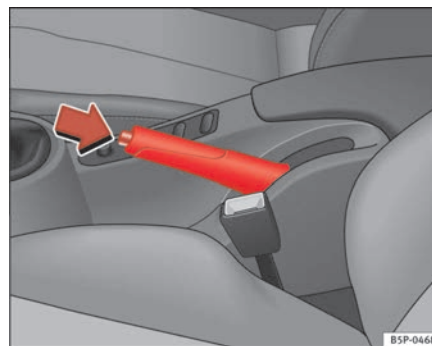

Fig. 145 Handbrake between the front seats
- Pull the handbrake lever up firmly ⇒ page 174, fig. 145.
- Pull the lever up slightly and press the release knob in the direction of the arrow ⇒ page 174, fig. 145 and guide the handbrake lever down fully ⇒ .